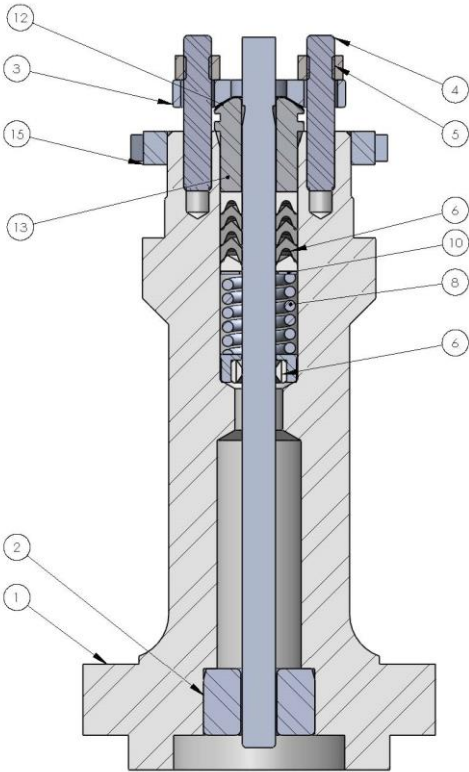

Figure 12. Extension Bonnet
10. Remove the covering protecting the valve cavity and install a new bonnet gasket (key 10, figure 12), making sure the gasket seating surfaces are clean and smooth. Then slide the bonnet over the stem and onto the stud bolts (key 15, figure 12), or onto the valve cavity if cap screws (not shown) are used instead.
Using proper tightening procedures in step 11 compresses the spiral wound gasket (key 12, figure 13) enough to both load and seal the seat ring gasket (key 13, figure 12). The tightening procedures also compresses the outer edge of the bonnet gasket (key 10, figure 12) enough to seal the body-to-bonnet joint.
Key numbers referenced in the following steps are found in figure 12, unless otherwise indicated.
With some valve plug sizes and configurations, the seat ring retainer and bushing assembly (keys 3 and 26, figures 12 and 13) will come out of the valve body with the valve plug and stem assembly, and in other valve plug sizes and configurations, the valve plug or tip will slide through the seat ring retainer and bushing assembly, leaving the retainer and bushing assembly in the valve body.
With metal-seat constructions, seating surfaces of the valve plug and seat ring (key 2, figure 12) can be lapped for improved shutoff. (Deep nicks should be machined out rather than ground out.) Use a good quality lapping compound of a mixture of 280 to 600-grit. Apply the compound to the bottom of the valve plug.
The following procedure assumes that all the trim and associated gaskets were removed from the valve body. If these parts were not all removed, start the assembly procedure at the appropriate step. Key numbers referenced in the following steps are found in figure 12, unless otherwise indicated.